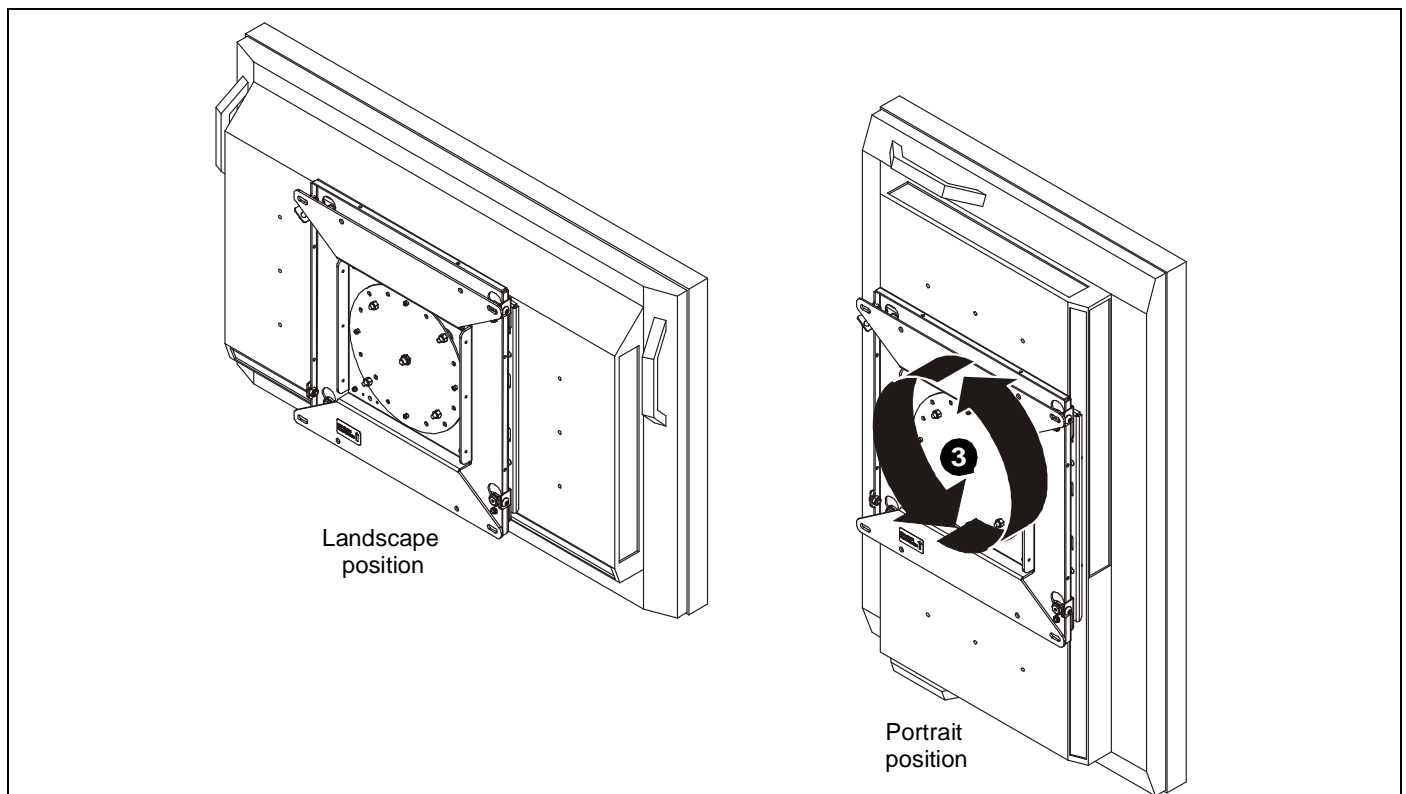

Figure 6
3. Rotate the mount to the desired position. (See Figure 6)